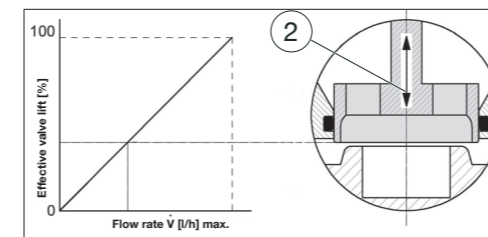

Fig. 5: Linear characteristic line of the regulating unit
The “Cocon QTZ” can be equipped with an actuator activating the regulating unit (2) which has an almost linear characteristic line (see Fig. 5).